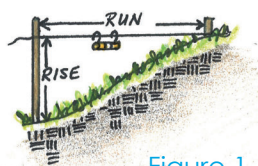

Figure 1
**STEP 1. Measure the slope.** Measure the overall rise and run of the area in inches (Figure 1).